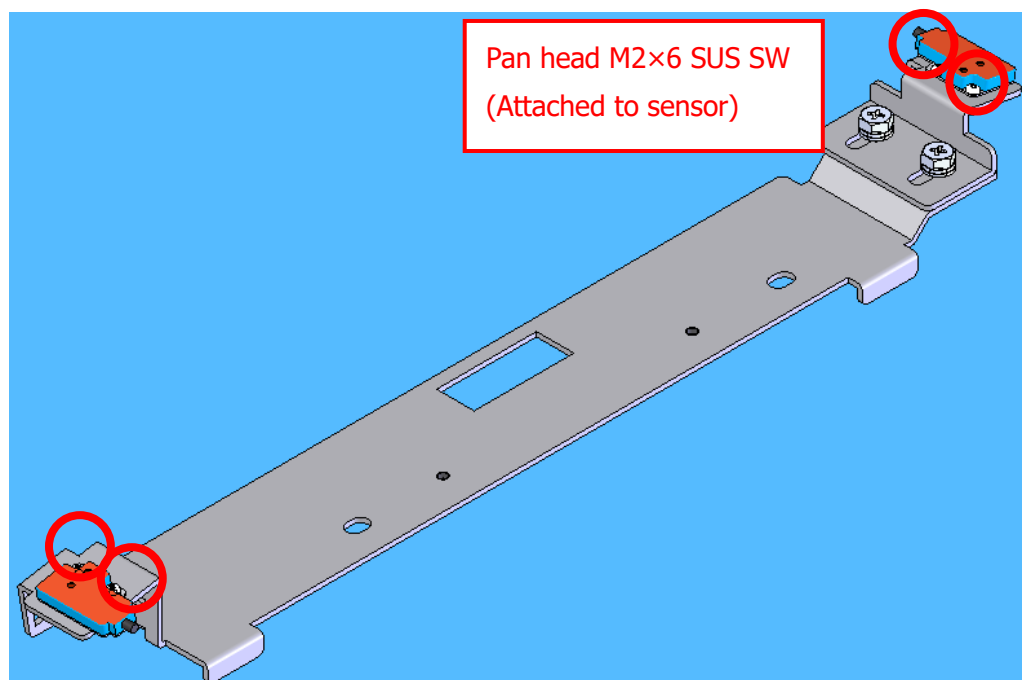

Fig. 2 Attach the front and rear sensor
2. Attach the front and rear sensors (Fig. 2).